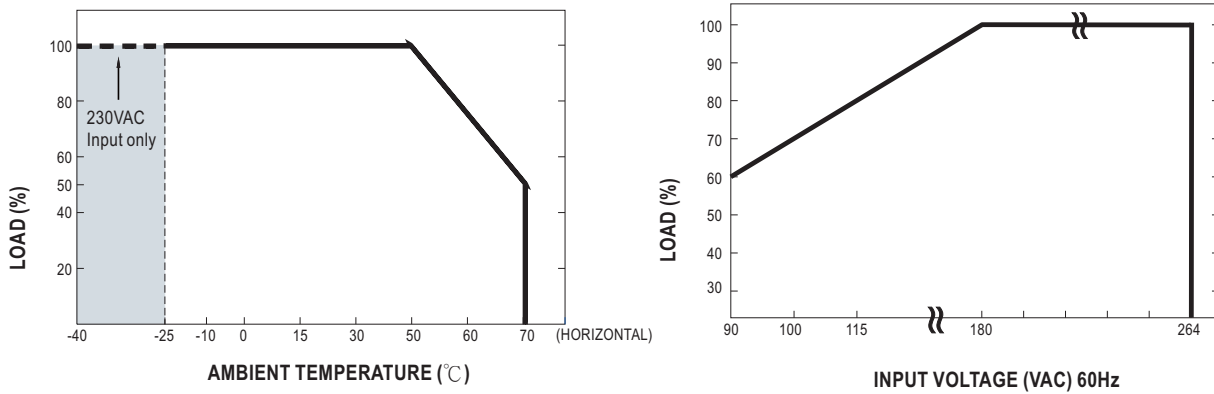

Figure 5-2 Output de-rating curves
- ⊙ When RCP-1600/RCB-1600 units are operating at a lower AC input voltage, these units will de-rate their output current automatically to protect themselves, shown as Figure 5-2.